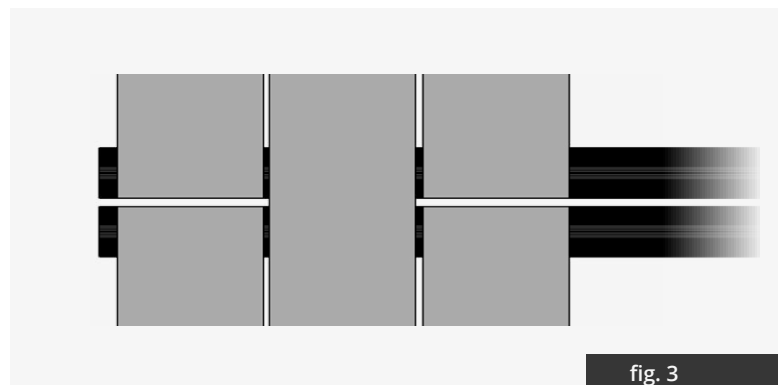

fig. 3
6. A full bearer width must be used under deck board ends, therefore you should make sure to double up on bearers in your substructure at butt joints (*fig. 3*). About a 6 mm spacing between bearers at butt joints is recommended.